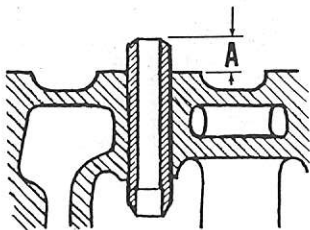

Fig. 53—On three cylinder gasoline models, valve guide is correctly positioned when distance (A) measures 0.37-0.38.
61. The pre-sized intake and exhaust valve guides are interchangeable and can be pressed from cylinder head if renewal is indicated. Install guide with 45° chamfered edge extending toward spring until distance (A)—Fig. 53) measures 0.370-0.380.